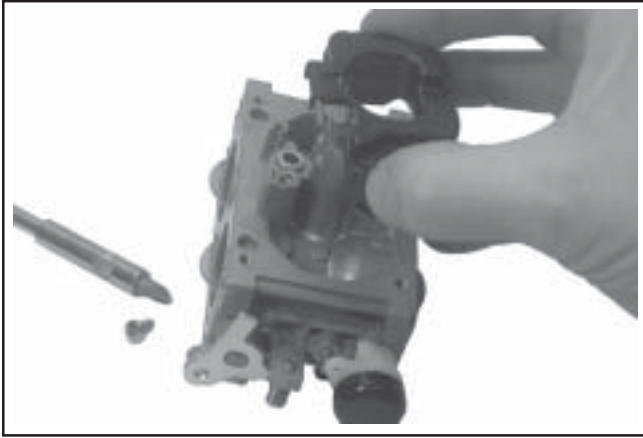

Figure 5-17. Removing Float and Inlet Needle.
3. Remove the float pin screw and lift out the old float, pin and inlet needle. See Figure 5-17. Discard all of the parts. The seat for the inlet needle is not serviceable, and should not be removed.